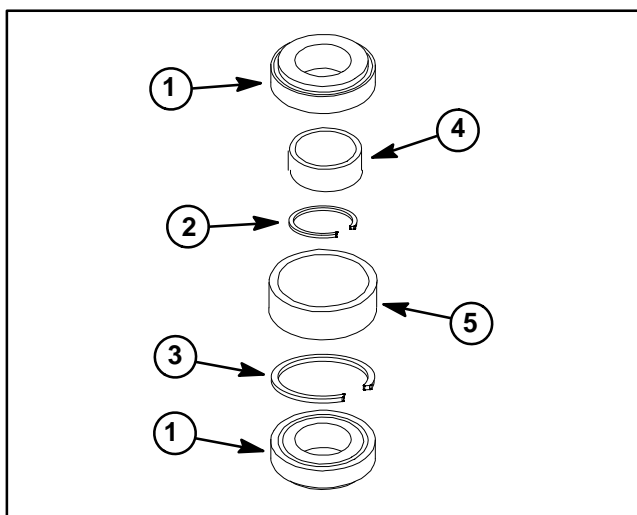

Figure 11
NOTE: A replacement spindle bearing set contains two (2) bearings, a spacer ring and a large snap ring (items 1, 2 and 3 in Fig. 11). These parts cannot be purchased separately. Also, do not mix bearing set components from one deck spindle to another.
NOTE: A replacement bearing spacer set includes the inner spacer and outer spacer (items 4 and 5 in Fig. 11). Do not mix bearing spacers from one deck spindle to another.
IMPORTANT: If bearings are being replaced, make sure to use the spacer ring that is included with new bearing set (Fig. 11).